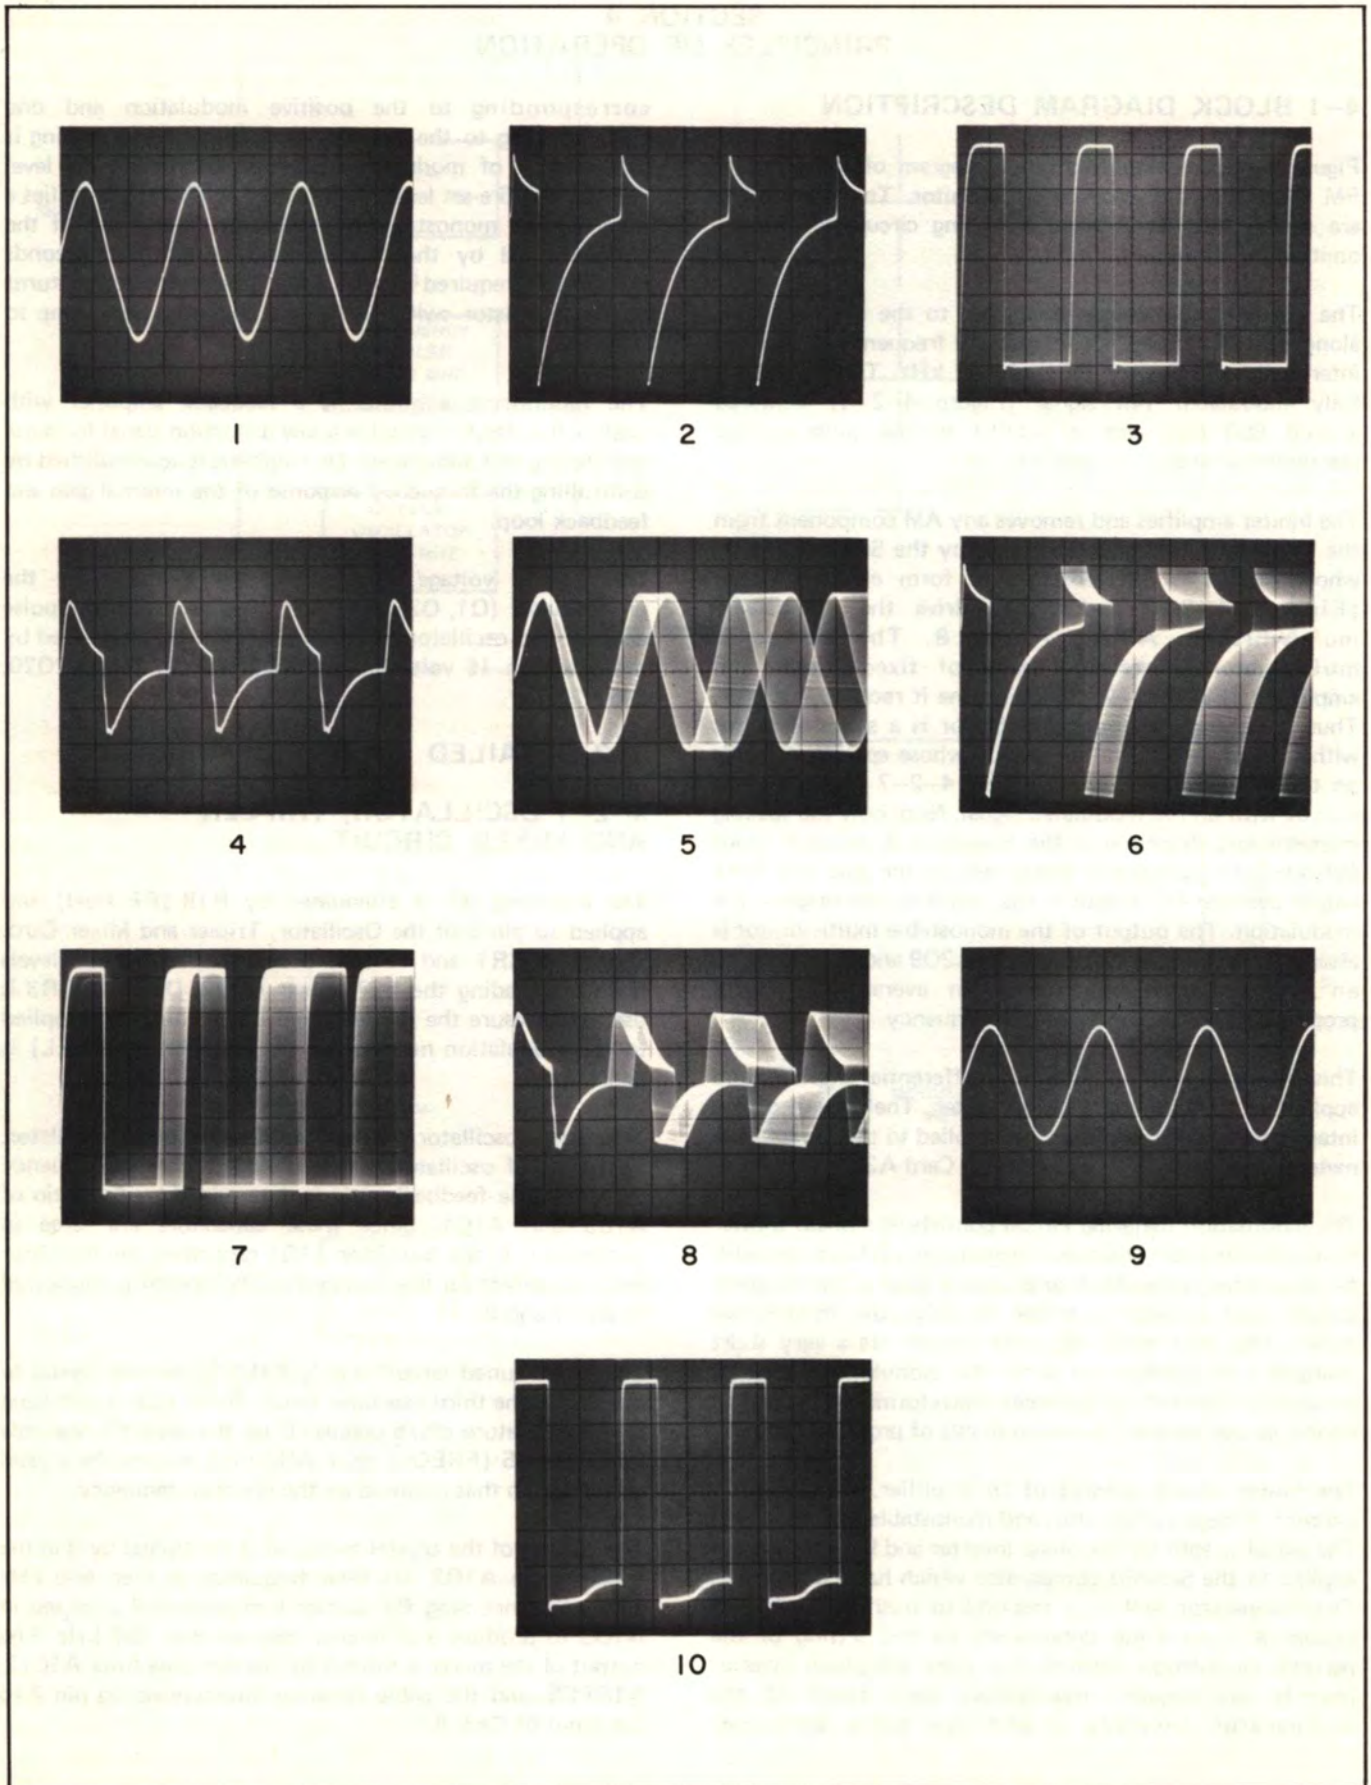

Figure 4-2
- d. If the unit does not function in the OPERATE position in step (c) above, the counter-discriminator circuits are malfunctioning, and the signal may be traced with the aid of the waveforms in Figure 4-2. A low capacity probe should be used with the oscilloscope to preserve the waveshape.